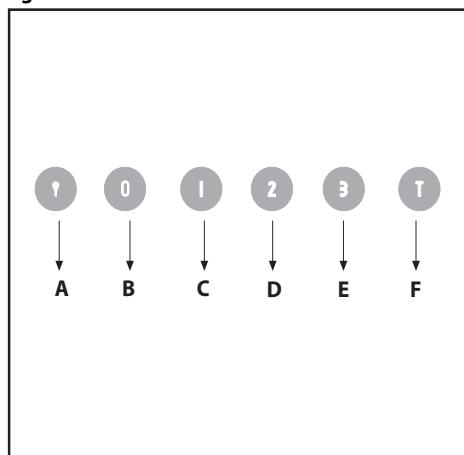

Fig.5
• Commands: (fig.5) luminous the key symbols are explained below: